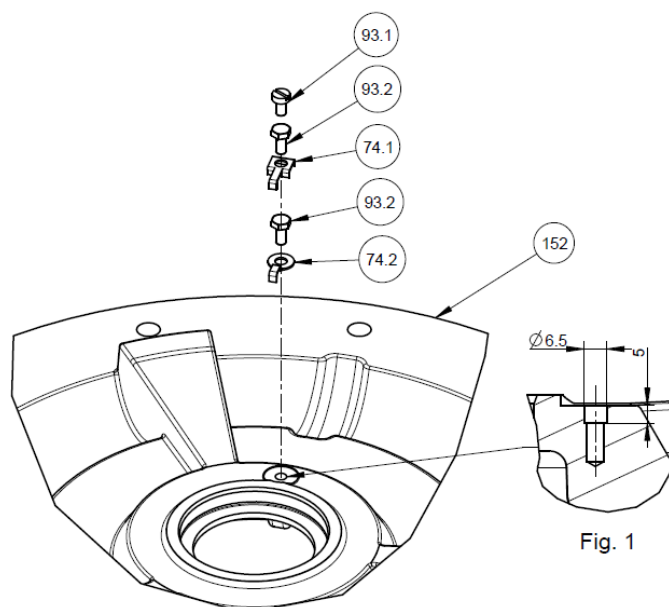

Figure 2. New lock washer for inner stationary seal ring
The old lock washer, pos. 74.1 in *Figure 2* had to be tightened with care to secure that the washer was not bent, yet not too loose so that it may come loose.